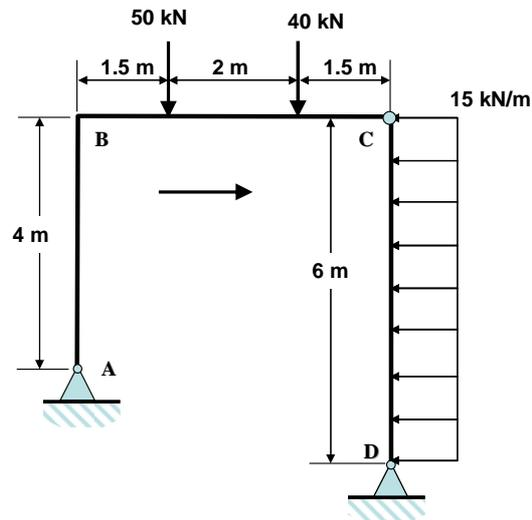

Figure 1
**Question 1.** Draw the axial force, shear force and bending moment diagram for all members of the frame shown in Figure 1. Note the frame is pin connected at A, C and D but rigidly fixed joint at B.